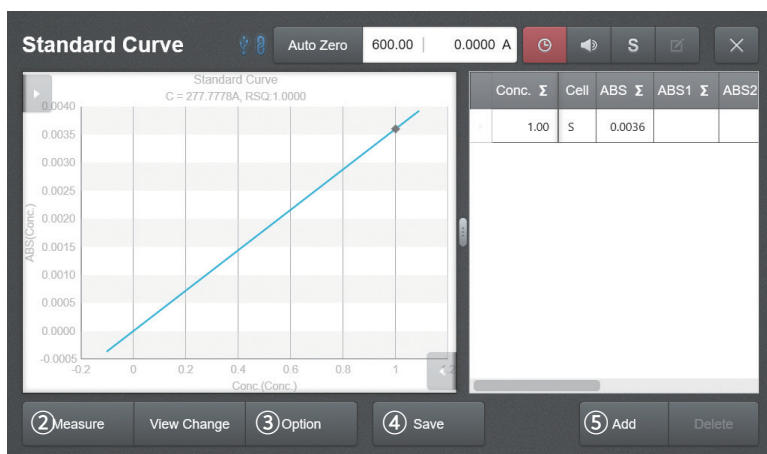

Fig. 4.15
3. [Fig. 4.15] Set the details for measurement by moving to ③ **Option** from standard curve mode.
6. [Fig. 4.15] Insert a sample to measure into the pertinent cell holder after entering the density, and take measurements by pressing ② **Measure**
7. [Fig. 4.15] If there a sample to add, insert the sample to measure into the pertinent cell holder and press ② **Measure** to take measurements.
9. [Fig. 4.15] If ④ **Save** is selected, a calibration curve with the selected standard curve type will be created, and the chart, calibration curve formula, and RSQ value can be checked.